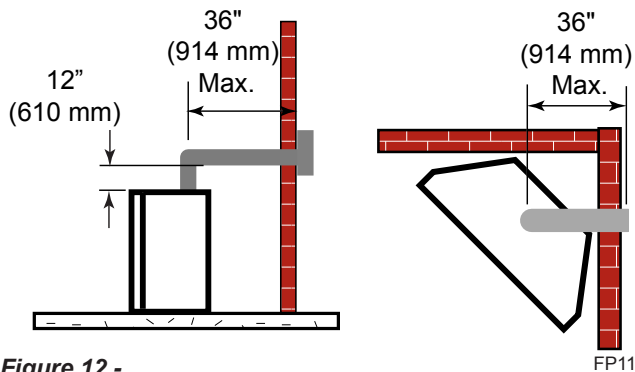

Figure 12 -
- A minimum of 12" is required before a 90° elbow. If a 90° elbow is fitted directly after 12" vertical section mounted to the top of the fireplace, the maximum horizontal vent run before the termination or a vertical rise is 36" (914 mm). *Figure 12*